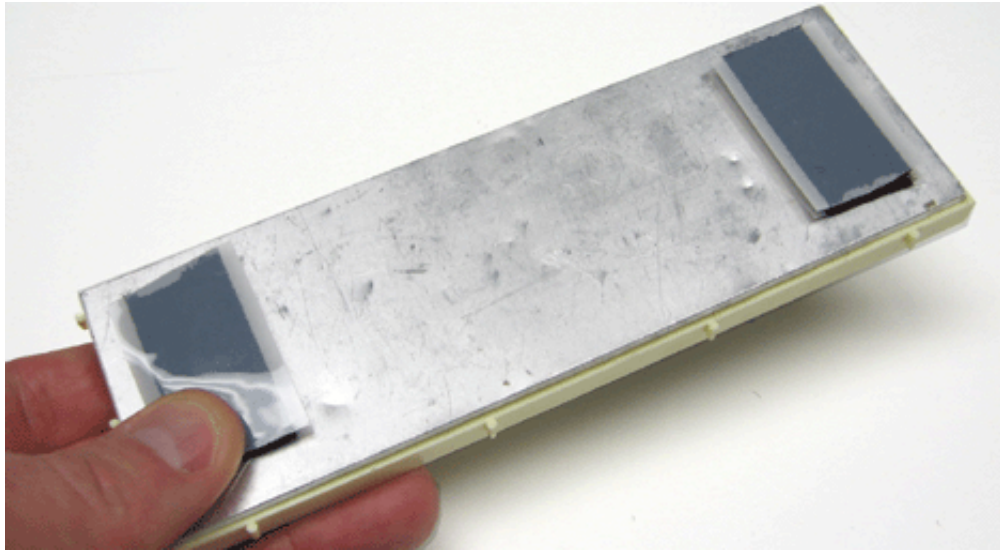

Figure 9. Velcro strips attached to the underside of the ATmega Board.
- 2. Keeping the two sides of the velcro together, peel the backing from one side of each strip and press the two strips onto the underside of the ATmega Board, as shown in Figure 9.**